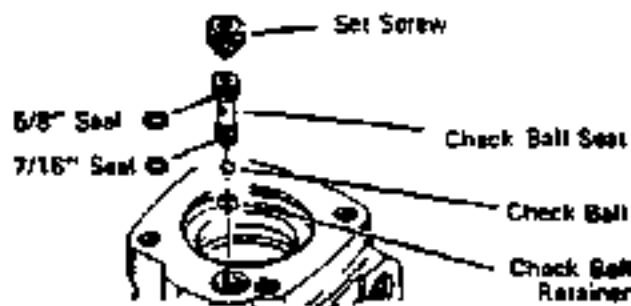

Figure 12
1. Use a needle nose pliers to lower check ball retainer into check valve hole of housing. Make sure retainer is straight (not tilted on edge) in housing, see Fig. 12.
3. Lubricate 5/8" diameter seal and 7/16" diameter seal. Install seals on check ball seat as shown in Fig. 12.
4. Lubricate check ball seat and seals thoroughly before installing seat in housing. When installing seat do not twist or damage seals. Install check ball seat in housing, insert open end of seat first, see Fig. 12. Push check ball seat to shoulder of hole.